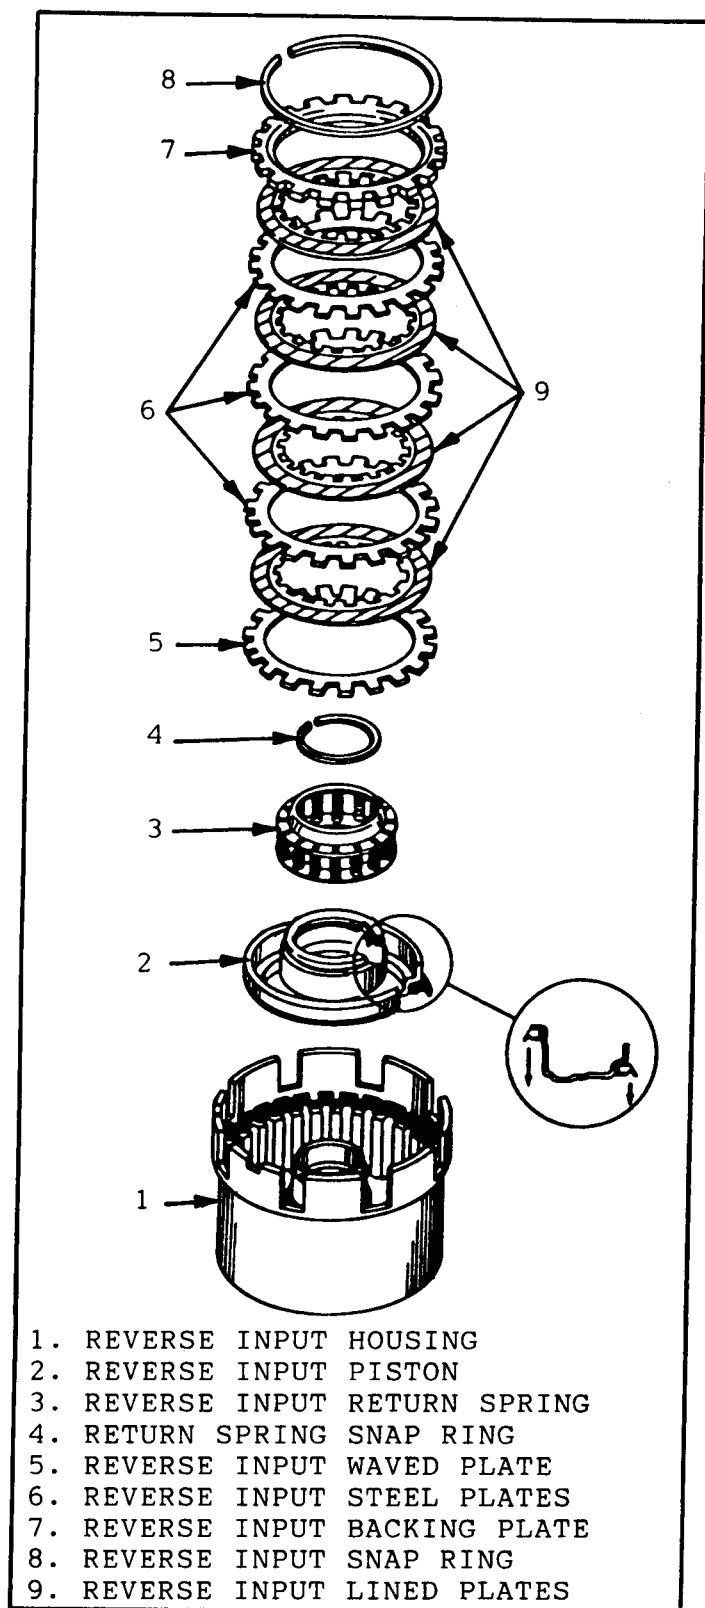

Figure 91
1. Use Figure 91 for disassembly.
2. Lip seals must face away from the spring side of the piston as shown in Figure 91.